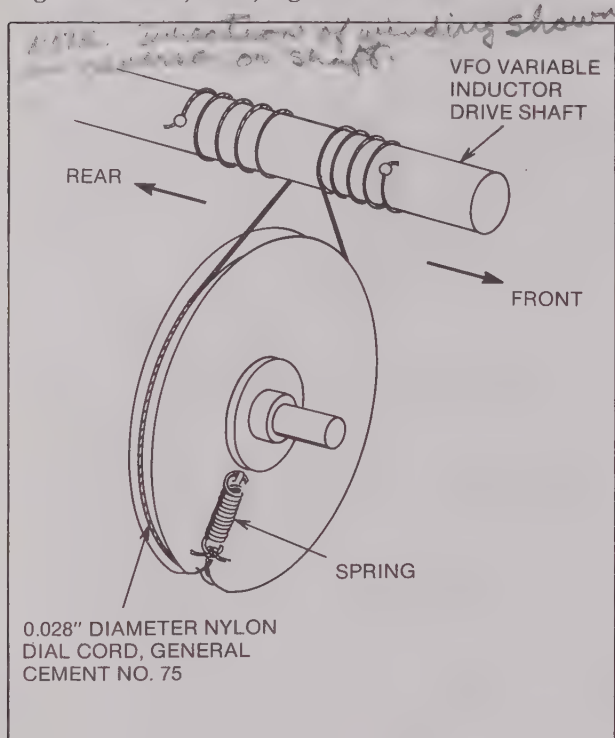

Figure 4-7 Varactor Tracking Capacitor, Dial Cord Installation
d. Install the replacement dial cord as shown in Figure 4-7. Use 0.028-inch diameter nylon dial cord, General Cement part number 75, or equivalent.